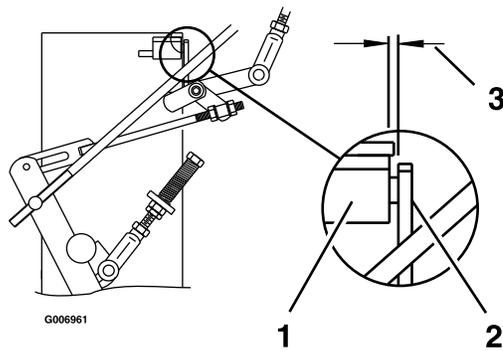

Figure 19
2. Move the speed control lever (located on the console) to the full forward position and check the orientation of the tabs on the ends of the speed control crank (see Figure 19). These tabs should be pointing straight down at the 6 o'clock position or slightly forward. Adjust the threaded yoke at the bottom of the speed control linkage (see Figure 19) until the tabs are positioned correctly.
3. Pull the speed control lever back to neutral. Check that the neutral safety switch actuating tab has depressed the plunger of the switch so that there is about 5/16 inch (.79 cm) between the tab and the switch (see Figure 19). If necessary, move the switch fore and aft.